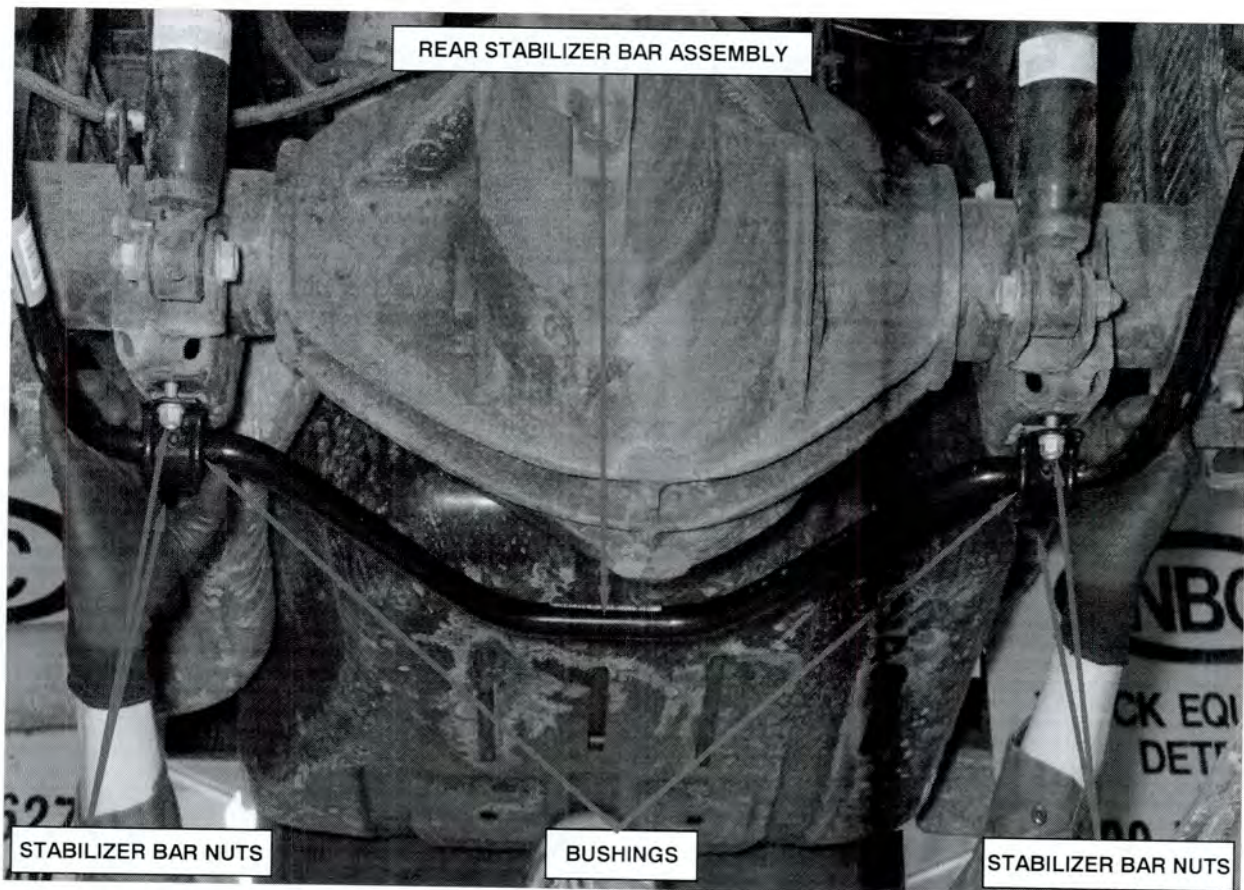

Figure 5 – Rear Stabilizer Bar Assembly
6. Position the rear stabilizer bar assembly to the stud plates (Figure 5).
7. Hand start and loose assemble the stabilizer bar nuts to the stud plates (Figure 5).
8. Visually ensure the rear stabilizer bar assembly is centered between the two bushings where mounted to the axle (Figure 5).